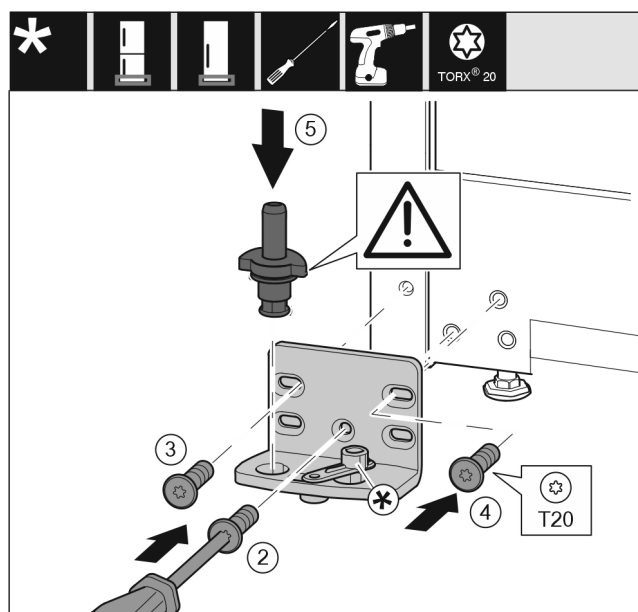

Fig. 37
- ▶ Attach the swap bearing block onto the other side and screw it on using a screwdriver. Start with the screw Fig. 37 (2) at the bottom center.
- ▶ Tighten screw Fig. 37 (3) and screw Fig. 37 (4).
- ▶ Insert the bearing pin Fig. 37 (5) completely. In the process, make sure that the latching cam shows towards the rear.
- ▶ Attach the swap bearing block onto the other side and screw it on using a screwdriver. Start with the screw (2) at the bottom center.
- ▶ Tighten screw (3) and screw (4).
- ▶ Turn the closing damper connection (5) by 180°. On the other side of the swap bearing block, screw it on with the screwdriver.
- ▶ Insert the bearing pin (6) completely. In the process, make sure that the latching cam shows towards the rear.